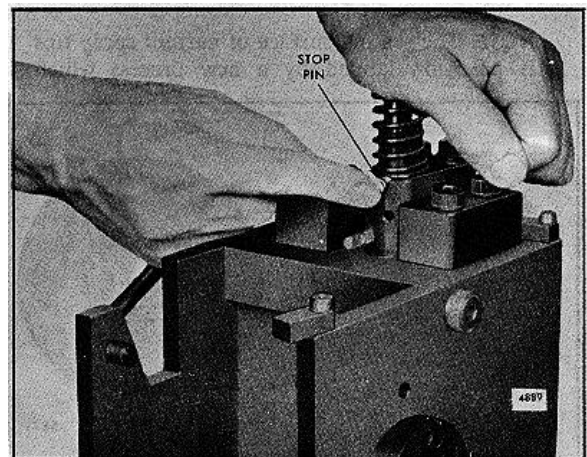

FIG. 42 - Installing Injector Follower Stop Pin
3. Refer to Fig. 42 and place the stop pin on the injector body so that the follower spring rests on the narrow flange of the stop pin. Then align the slot in the follower with the stop pin hole in the injector body. Next align the flat side of the plunger with the slot in the follower. Then insert the free end of the plunger in the injector body. Press down on the follower and at the same time press the stop pin into position. When in place, the spring will hold the stop pin in position.